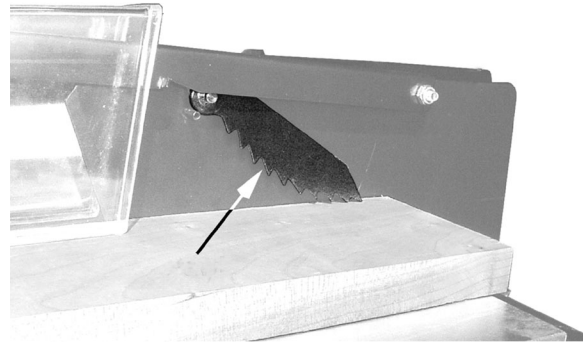

Figure 9-1
- As the machine receives use, the operation of the anti-kickback pawls should be checked periodically (Figure 9-1). If the pawls do not stop the reverse motion of a workpiece, resharpen all the points.